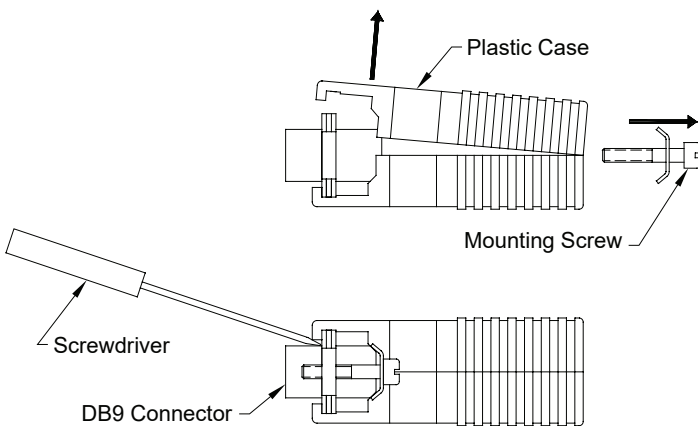

Figure 10: Opening the converter case
5. Use a small screwdriver to pry open the *plastic case* of the serial interface converter, as shown in figure 10.